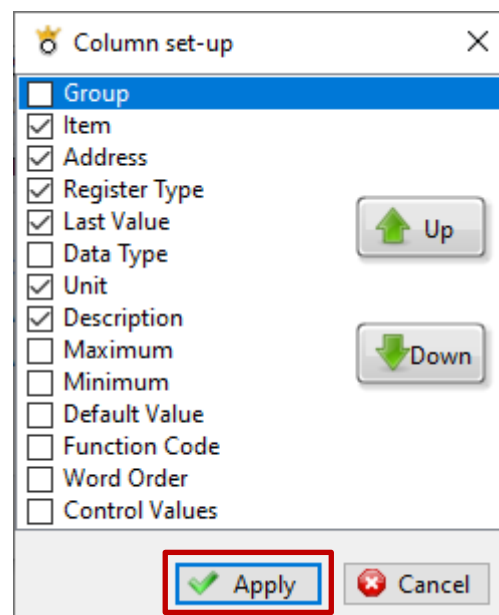

Figure 41: Adjust column order and enable or disable columns.
- **Column order and visibility:** Click the **Settings** button to adjust column order and to enable or disable columns. In the **Column set-up** window (see Figure 41) you may check/uncheck columns and move them up/down to adjust their order.